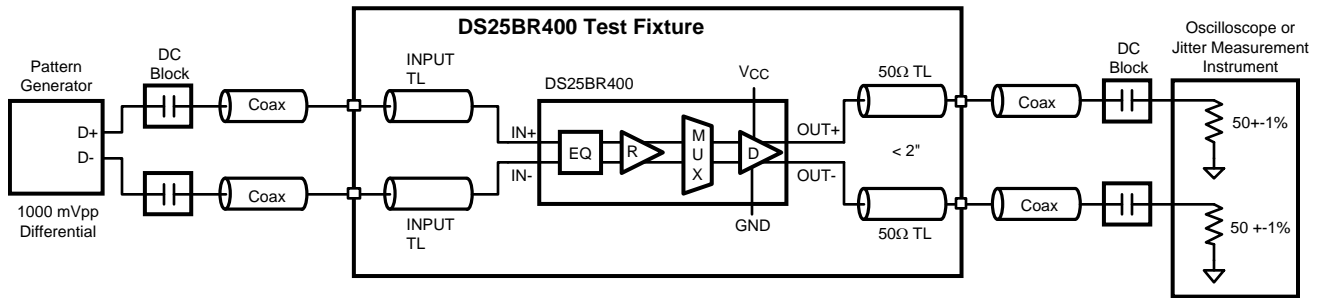

Figure 7. AC Test Circuit
(4) All CML Inputs and Outputs must be AC coupled for optimal jitter performance.
(6) Device output random jitter is a measurement of random jitter contributed by the device. It is derived by the equation  $\sqrt{(RJ_{OUT})^2 - (RJ_{IN})^2}$ , where  $RJ_{OUT}$  is the total random jitter measured at the output of the device in ps(rms),  $RJ_{IN}$  is the random jitter of the pattern generator driving the device. Below 400 Mbps, system jitter and device jitter could not be separated. The 250 Mbps specification includes system random jitter. Please see Figure 7 for the AC test circuit.
(7) Device output deterministic jitter is a measurement of the deterministic jitter contribution from the device. It is derived by the equation  $(DJ_{OUT} - DJ_{IN})$ , where  $DJ_{OUT}$  is the total peak-to-peak deterministic jitter measured at the output of the device in ps(p-p).  $DJ_{IN}$  is the peak-to-peak deterministic jitter at the input of the test board. Please see Figure 7 for the AC test circuit.
(8) This parameter is guaranteed by design and/or characterization and is not tested in production.